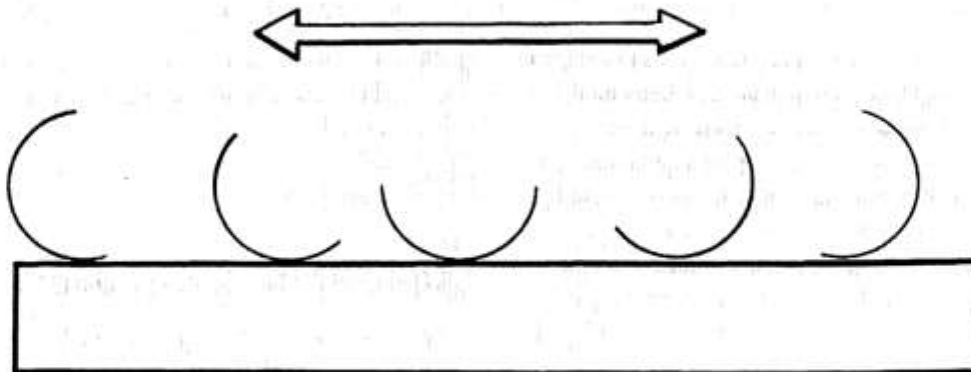

Fig 12.15 The direction and rotation of a gouge while being sharpened on a benchstone
- ③ Place the heel of the outside bevel in the centre of the stone. Keep your elbows by your sides.
- ④ Start by getting a feel for how the flat bevel rests on the surface of the stone. Raise the handle until the bevel lies flat on the stone, and then raise it a little more on to the actual edge. By raising and lowering the handle a little, learn to feel when the bevel is lying truly flat on the surface. With a little practice you will be able to go straight to resting the bevel flat on the stone.
- ⑤ Remember to present the gouge to the benchstone at the cutting angle – the angle at which you want to hold the tool while you are carving. Start on the left of the oilstone with the gouge turned on to its right corner. The mouth of the gouge will be pointing towards the centre of the stone.
- ⑥ The gouge must now move to the opposite end of the benchstone. In doing so, you must also rotate the blade so that it comes to rest on its opposite corner, with the mouth pointing once more towards the centre. This constitutes one sharpening stroke.
- ⑦ Without lifting the gouge from the surface, reverse the movement so the gouge comes to rest on its right corner, over on the left of the stone once more (Fig 12.15). This completes a cycle of two strokes. Notice that the direction of rotation goes *against* the direction of travel, efficiently biting the metal into the stone.
- ⑧ The gouge is rocked like this, from one end of the benchstone to the other and back again, in regular, even strokes. Use the whole cutting surface, but avoid both a figure-of-eight pattern – which rounds over the bevel – and the very edge of the stone.
- ⑨ Present the bevel *flat* all the time. To accomplish this, keep the elbows in, rotating the tool handle from the wrist and forearm. Shift the weight of the body from one leg to the other, keeping your back upright and your knees relaxed and slightly bent. This posture has something of the judo stance and balance about it, and should feel comfortable and unforced. If you work from the elbows only, the bevel will invariably become 'rolled' or rounded.